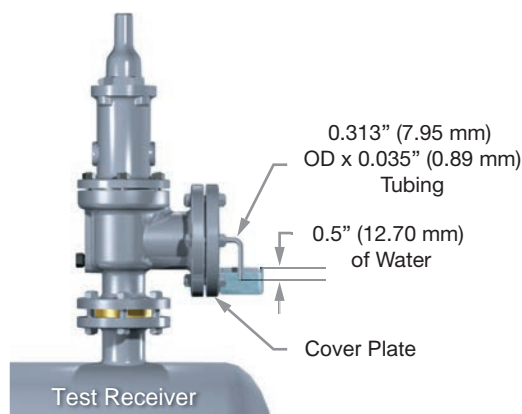

Figure 40: Typical Test Arrangement
General Information: Set up a typical test arrangement for determining seat tightness for SRVs on air or gas service (in accordance with ANSI B147.1/ API RP 527) (see Figure 40).
1. With the valve mounted vertically (see Figure 40), determine the leakage rate, in bubbles per minute, with pressure at the SRV inlet held at 90% of the set pressure immediately after popping. For valves set at 50 psig (3.45 barg) or below, hold pressure at 5 psig (0.34 barg) below set point. The test pressure shall be applied for a minimum of 1 minute for valves on inlet sizes through 2" (50.8 mm); 2 minutes for sizes 2.5" (63.5 mm), 3" (76.2 mm) and 4" (101.6 mm), and 5 minutes for the 6" (152.4 mm), 8" (203.2 mm), 10" (254 mm) and 12" (304.8 mm) sizes. For metal-to-metal valves designated for gaseous service, the leakage rate shall not exceed